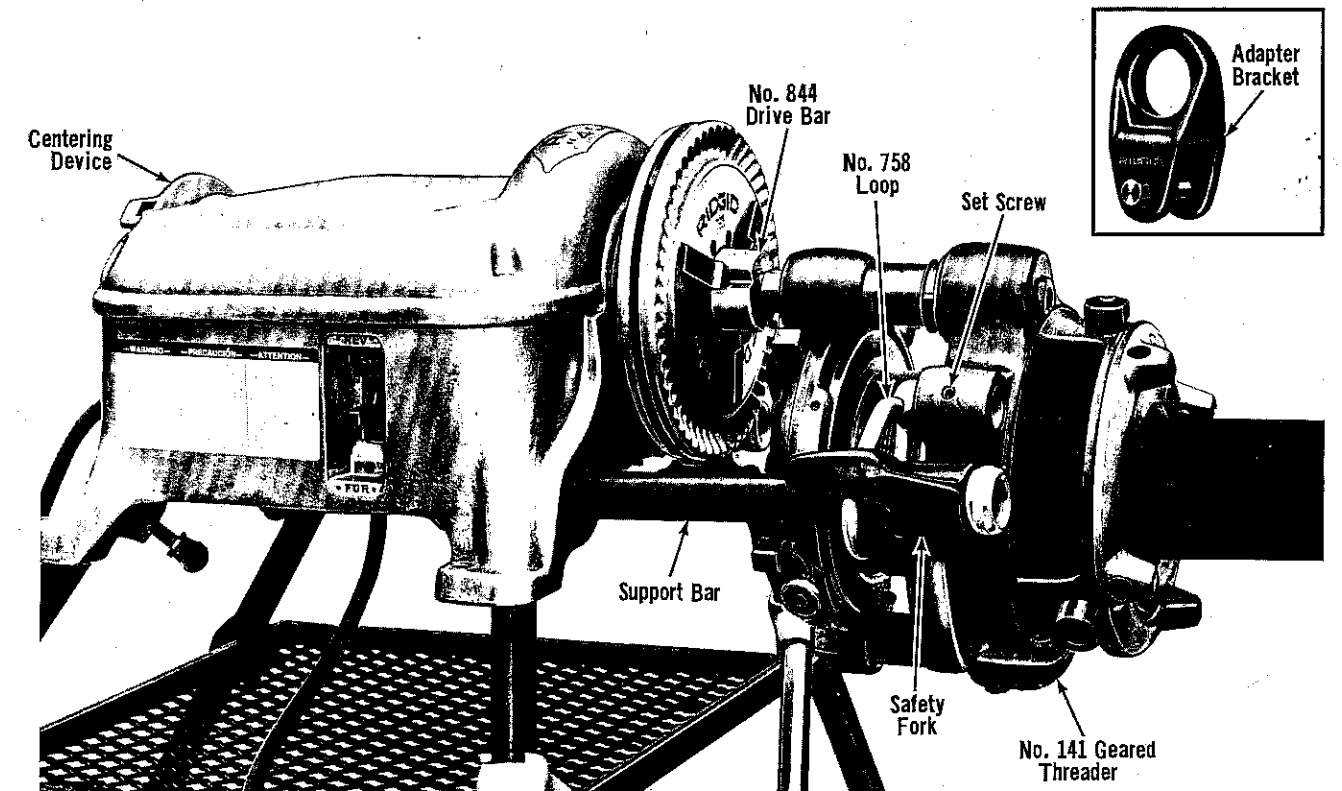

Figure 10. No. 141 Geared Threader Close-Coupled to Power Drive (No. 4PJ Threader Similar).
3. Two men pick up Threader and insert Drive Bar into chuck of Power Drive (Figs. 10 and 11). Tighten Power Drive Chuck Jaws into three "V" shaped grooves in head of Drive Bar.
6. **4PJ and 141 Threaders (Fig. 10)** - Slip No. 758 Loop over Support Bar and secure to Gear Case loop with Set Screw.
Note: Use No. E-3675 Adapter Bracket (Fig. 10), in place of No. 758 Loop, on all 4P and 4PJ Threaders without loop hole on Gear Case.